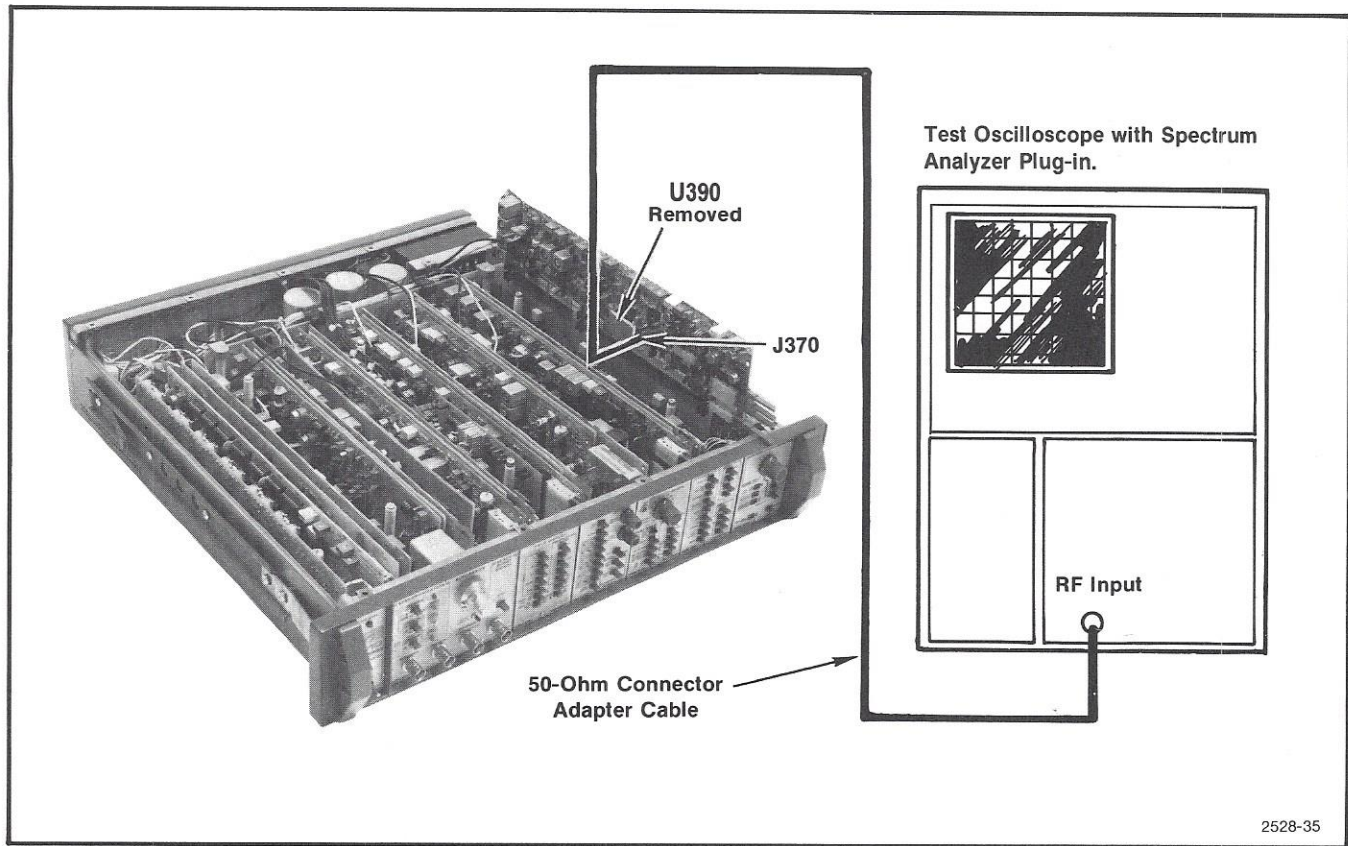

Fig. 4-2. Equipment connections for step 2.
b. Connect the signal from J370 on the Multiburst Output board via the 50-ohm connector-adapter cable to the spectrum analyzer RF Input connector (see Fig. 4-2).